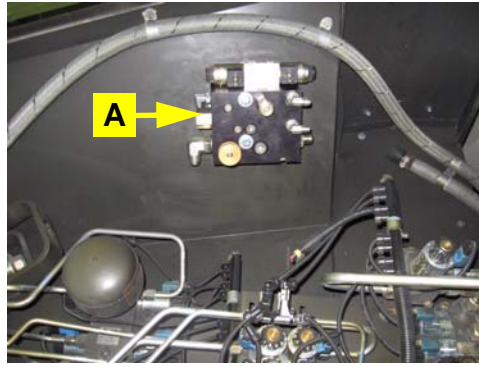

Figure 2c: Mounted automated steering block
- c. Use the provided mounting hardware in group **G** to attach the automated steering block, you prepared in **step 1**, to the mounting bracket **E** (Figure 2c).